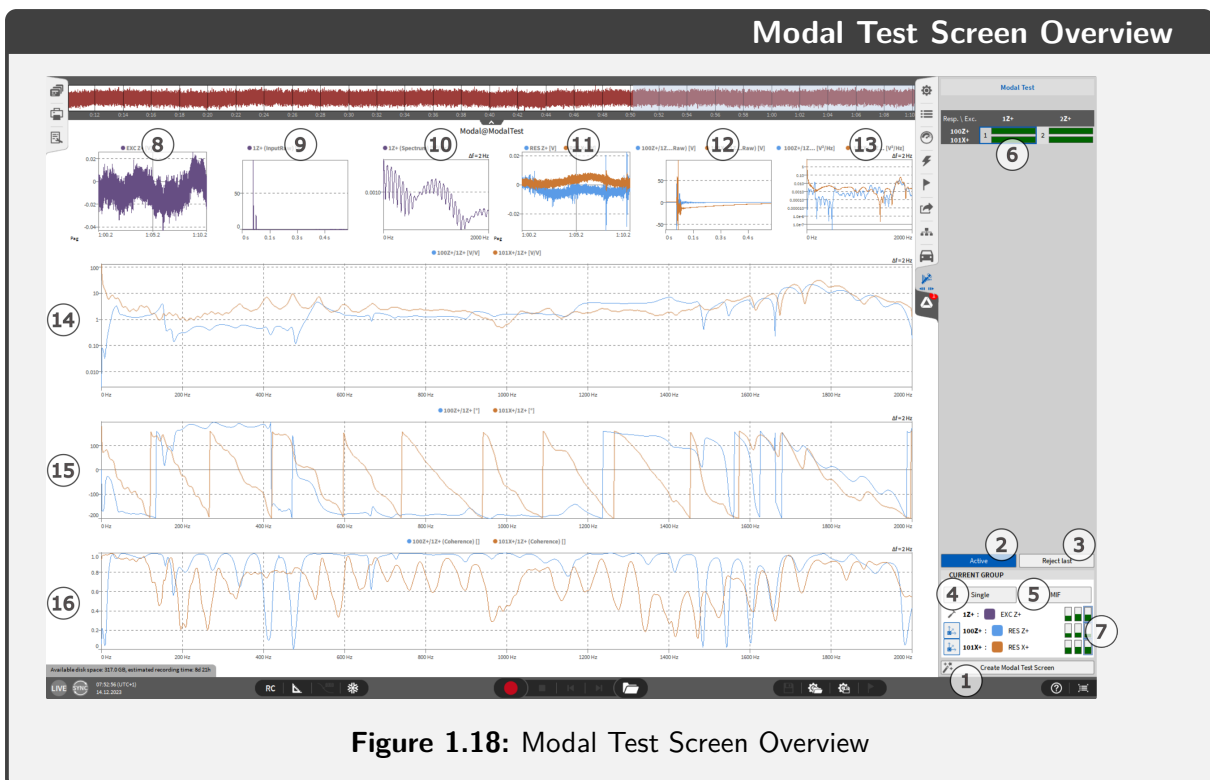
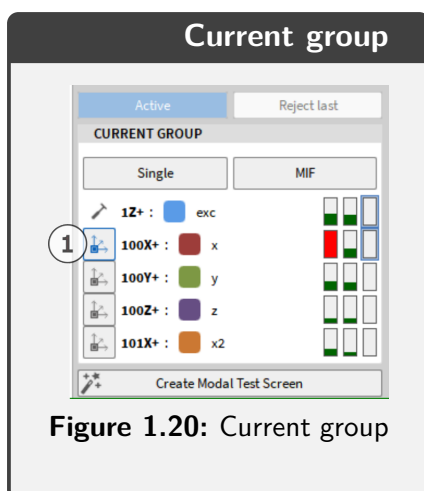

Figure 1.18: Modal Test Screen Overview
Figure 1.20: Current group
This can be done with any instrument to create your custom modal test screen. To get back to a default modal test screen, click again on the "Create Modal Test Screen" button (1) in figure 1.18, which adds a new screen with the default modal test screen, based on a template.
The individual response axes can be hidden, shown in figure 1.20 (1) where a click on the axes symbol toggles the displayed data in the amplitude response, seen in figure 1.18 (14), the phase shift response (15) and the coherence function (16). In the first excitation of this group, the x response bar is displayed as red. This indicates an exceeding of the sensor range. Further details are described in the operation basics chapter.